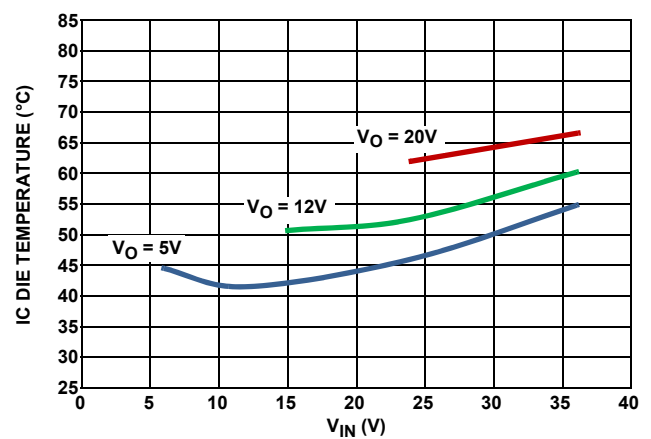

FIGURE 10. IC DIE TEMPERATURE UNDER $+25^\circ C$ AMBIENT TEMPERATURE, STILL AIR, 500kHz, $I_O = 2A$
- From the thermal perspective, the die temperature shouldn't exceed +125°C with the power loss dissipated inside of the IC. Figures 10 and 11 show the thermal performance of this part operating at different conditions.
Figures 10 and 11 shows 2A and 2.5A applications under +25°C still air conditions over V_{IN} range. The temperature rise data in these Figures can be used to estimate the die temperature at different ambient temperatures under various operating conditions. Note that more temperature rise is expected at higher ambient temperature due to more conduction loss caused by $r_{DS(ON)}$ increase.